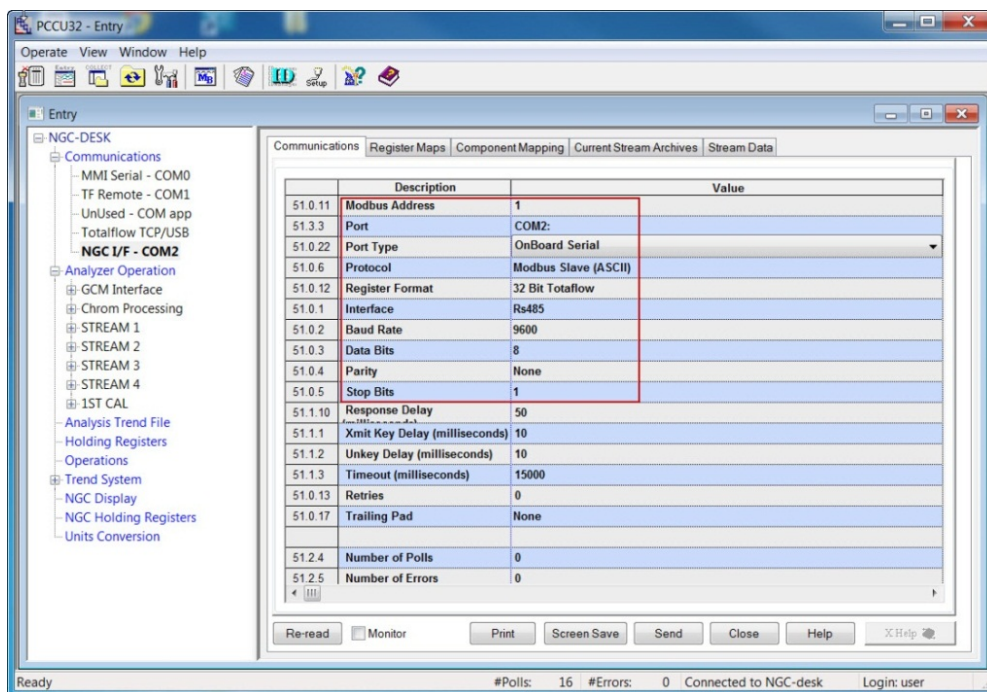

Figure 18. Configuring NGC interface communication parameters
- 2) Insert parameters for communications. Table 1 show the parameters whose default values must change to reflect the specifics of the customer scenario (See Figure 18). If some of the default values meet the customer specs, then leave unchanged.